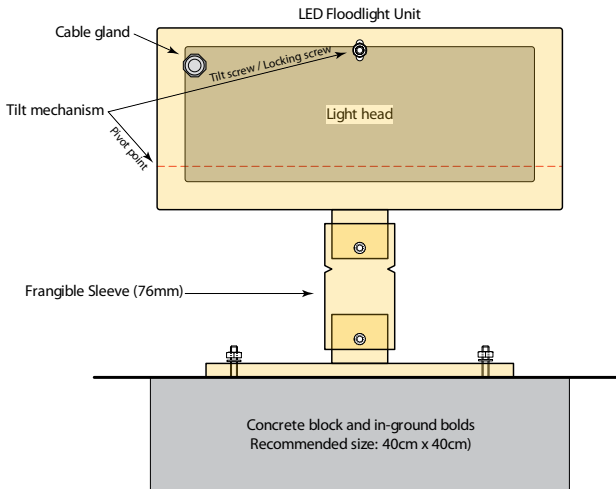

Figure 3. Tilt mechanism
- Loosen the two nut screws at the back of the LED Floodlight Unit (please refer to Figure 3)